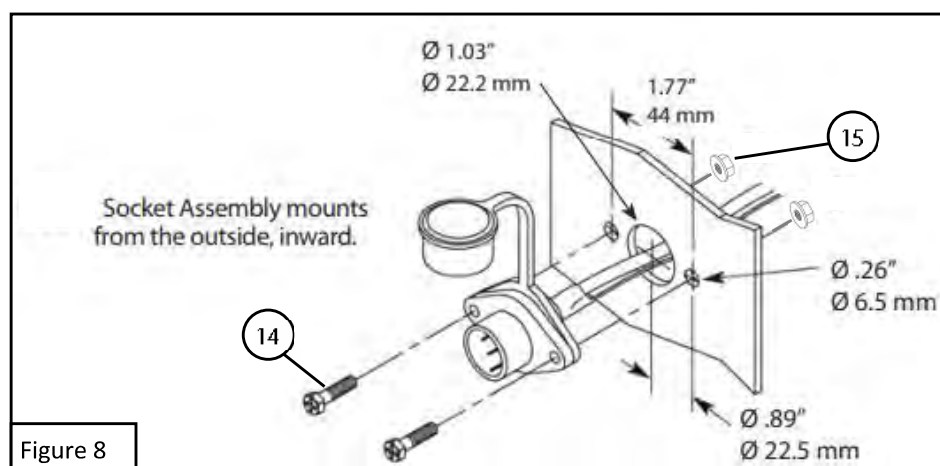

Figure 8
2. Drill three holes using the dimensions below as a guide. **See Figure 8.**
3. Mount the remote socket using the included M5 hardware (items 14-15).